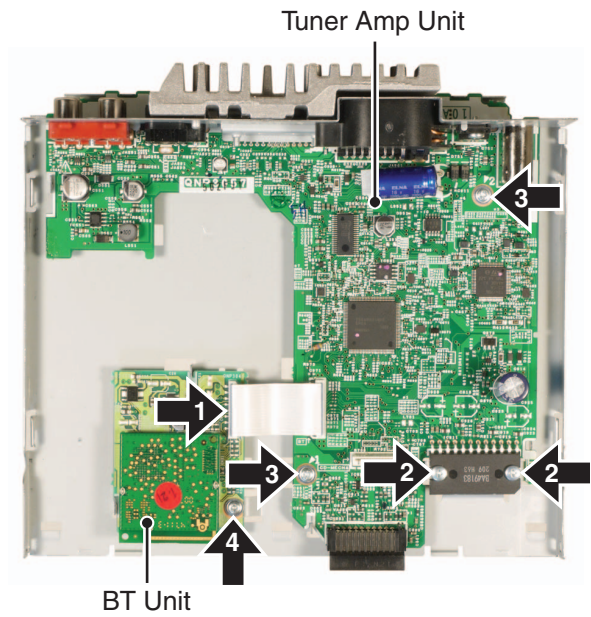

Fig.3
### ● Removing the Tuner Amp Unit and the BT Unit (Fig.3)
4. As shown in Fig 3, move the rear end of the feeding screw laterally and then upward, to remove it from the outer holder.